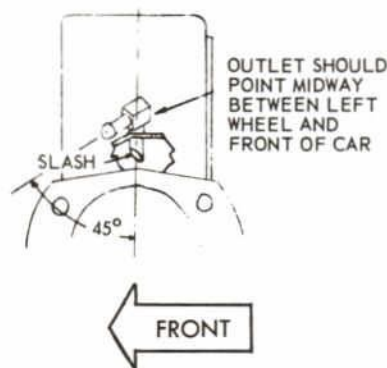

Figure 2—Rear Axle Vent Installation
2. (Figure 2) This is the 90 degree external elbow vent design. This vent is properly positioned by pointing the external outlet midway between the left rear wheel and the front of the car.